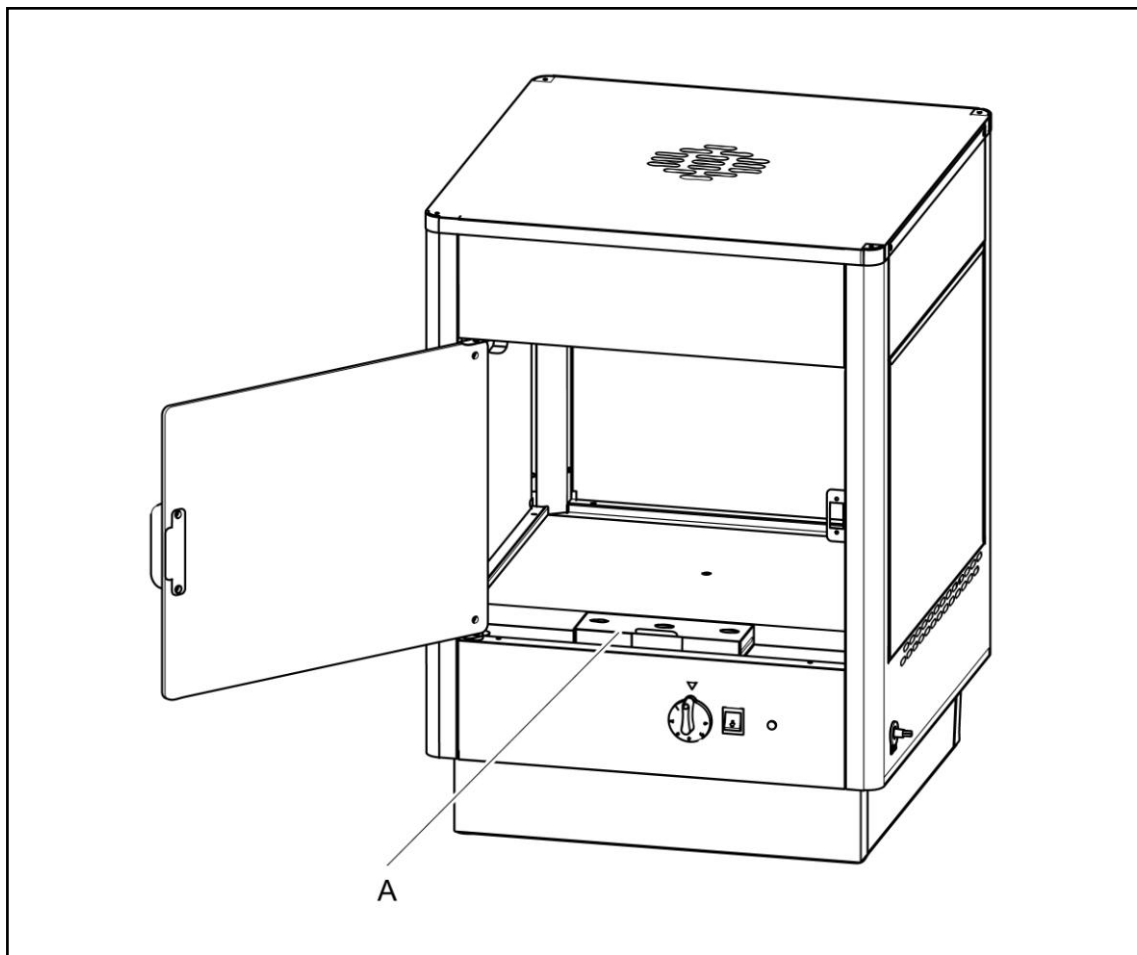

Fig 4
The integral water bath - Fig 4 (A) is intended to keep food such as pastry, moist. Fill with warm water to the indicated level. **Do not overfill.** Check and maintain the water level.